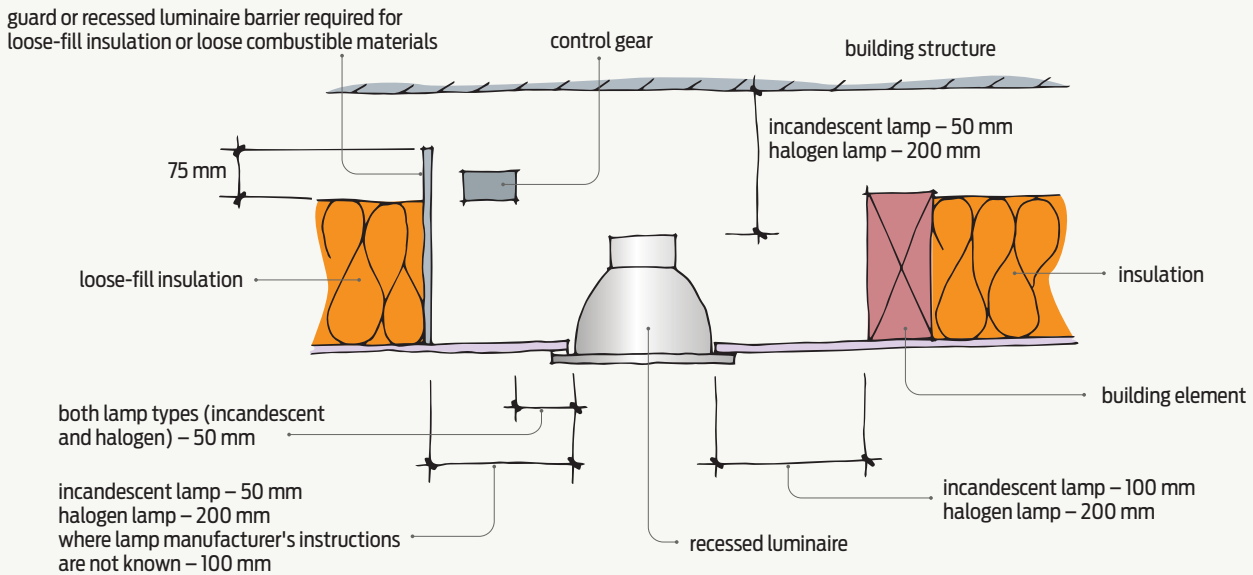

Figure 1 Default minimum clearances for recessed downlights (from AS/NZS 3000:2007 Figure 4.7 and NZS 4246:2016 Figure 8).
- have no clear marking and require a minimum clearance from both insulation and other building elements in accordance with the manufacturer's instructions or the default clearances given in NZS 4246:2016 and AS/NZS 3000:2007 *Electrical installations* (see Figure 1).